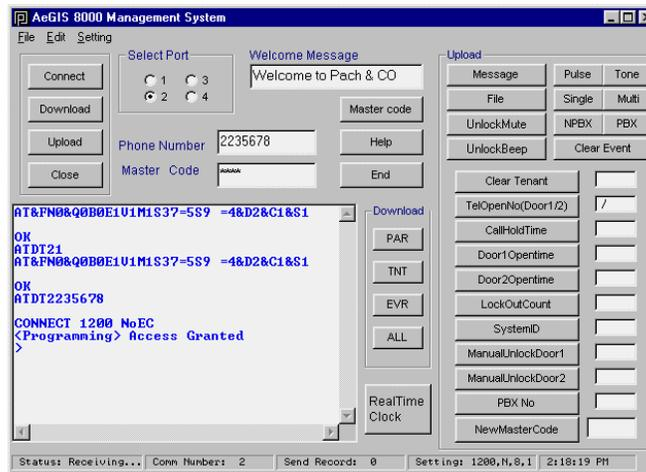

Figure 4
Step 2 Click on setting, see figure 4.